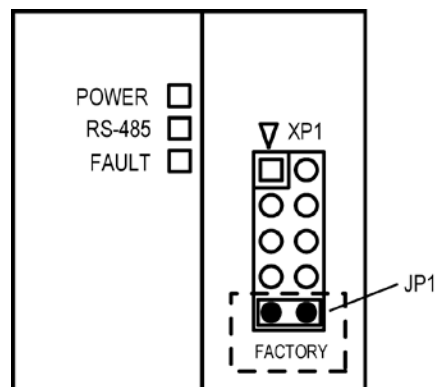

Fig. 7.3 Jumper JP1
- install jumper JP1 (see Figure 7.3) onto pins 9-10 (bottom row), now the module is operated with default network parameters, the user settings are saved